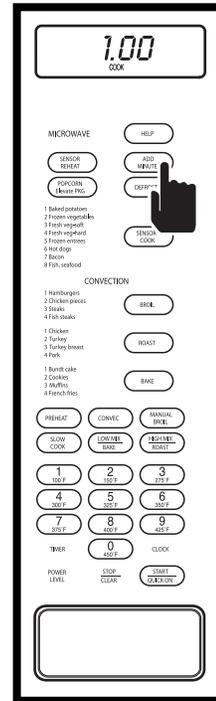

Figure 3-33.
1. If the microwave oven is off and the ADD MINUTE key is pressed, the microwave oven will automatically switch to Time Cook Mode at 100% power for one minute (See Figure 3-33). At the end of the cooking time, “END” will flash on the display and alarm will beep.